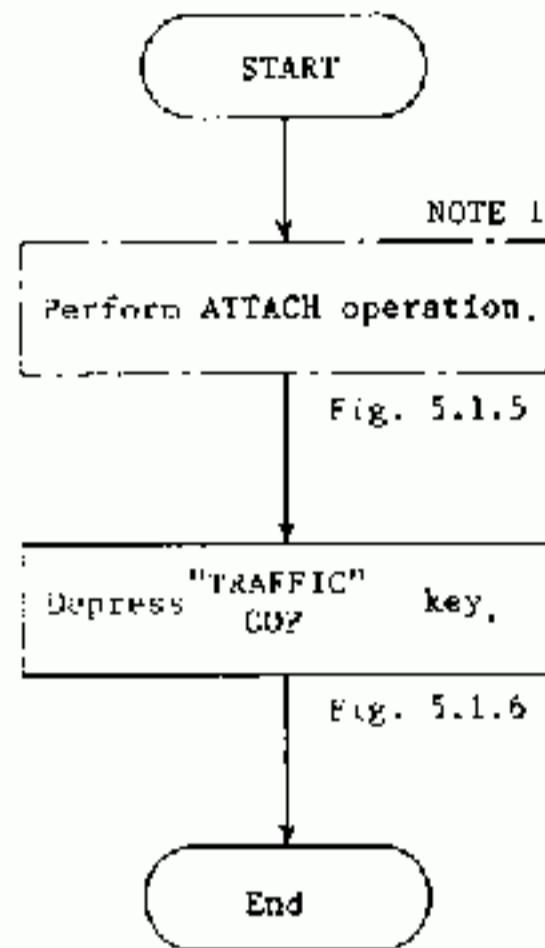

Fig. 5.1.5
2. When "PREVIOUS MENU" key is depressed, the state returns to the state as shown in Fig. 5.1.5.